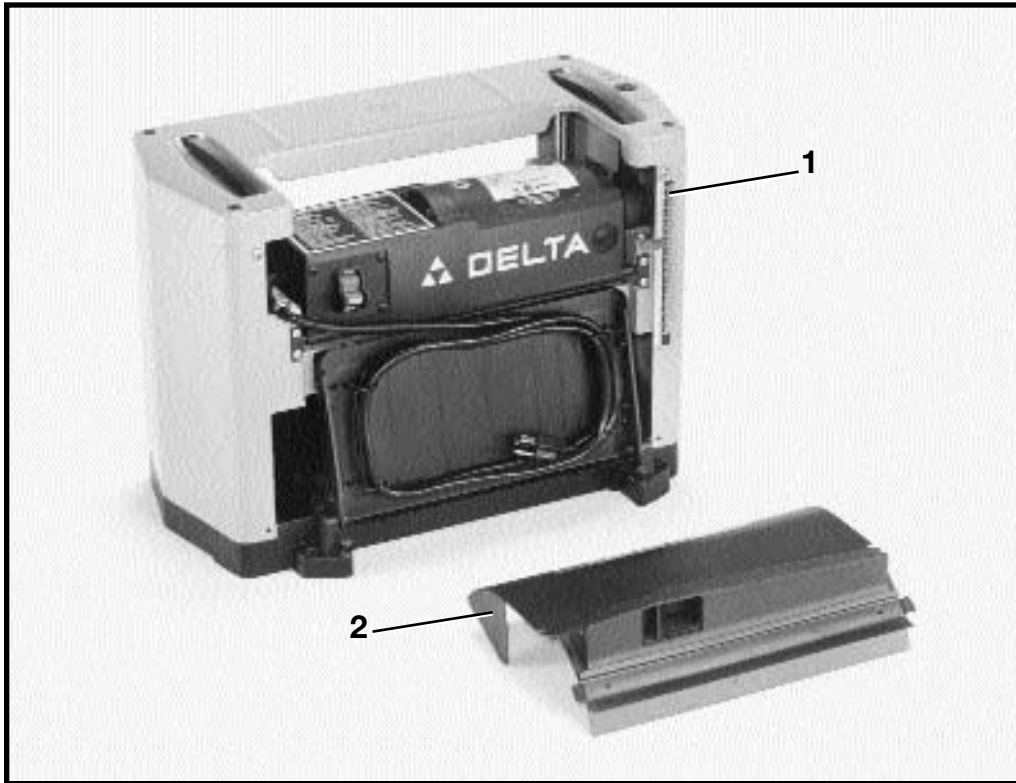

Fig. 2
**CAUTION: CARE MUST BE TAKEN WHEN CLEANING THE CUTTERHEAD AS THE KNIVES ARE SHIPPED IN THE CUTTERHEAD AND THEY ARE VERY SHARP. Figs. 2 and 3, ILLUSTRATE THE PLANER AND ALL LOOSE ITEMS SUPPLIED WITH THE MACHINE.**